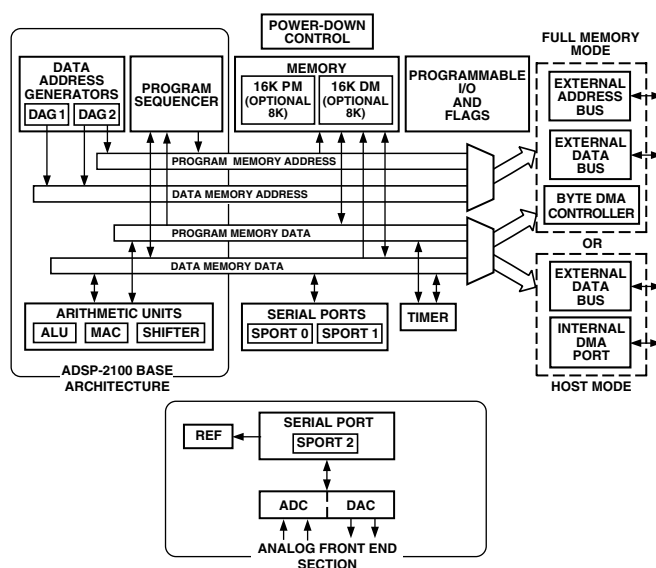

Figure 1. Functional Block Diagram
Figure 1 is an overall block diagram of the AD73411. The processor section contains three independent computational units: the ALU, the multiplier/accumulator (MAC) and the shifter. The computational units directly process 16-bit data and have provisions to support multiprecision computations. The ALU performs a standard set of arithmetic and logic operations; division primitives are also supported. The MAC performs single-cycle multiply, multiply/add and multiply/subtract operations with 40 bits of accumulation. The shifter performs logical and arithmetic shifts, normalization, denormalization, and derive exponent operations. The internal result (R) bus connects the computational units so that the output of any unit may be the input of any unit on the next cycle.